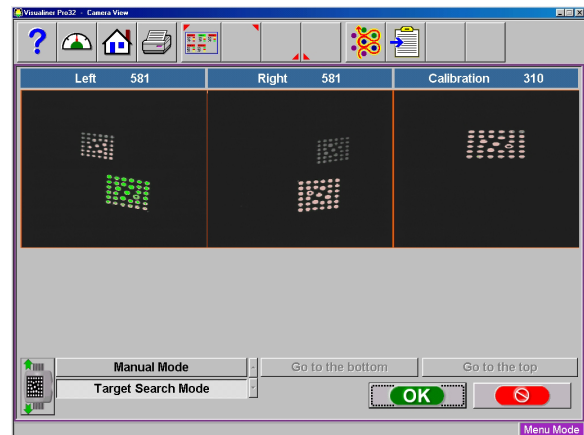

Figure 19
4. Using the mouse, select Manual Mode, then “Go to the bottom” (Figure 19). The motor should power up and move both cameras to the bottom of their travel (bottom shut-off switch).